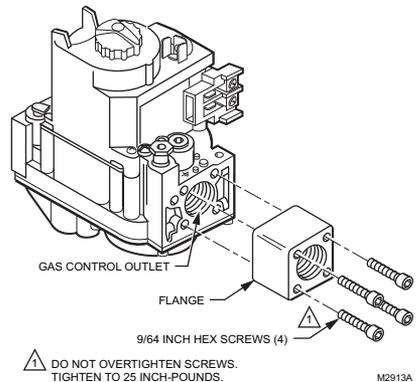

Fig. 1. Fasten Flange to Valve with 25 in.- lbs (2.8 N·m) Torque.
4. With O-ring facing valve, line up the screw holes on the control with the holes in the flange. Insert and tighten the screws provided with the flange (See Fig. 1). Tighten the screws to 25 in.-lbs (2.8 N·m) of torque to provide a gas-tight seal.